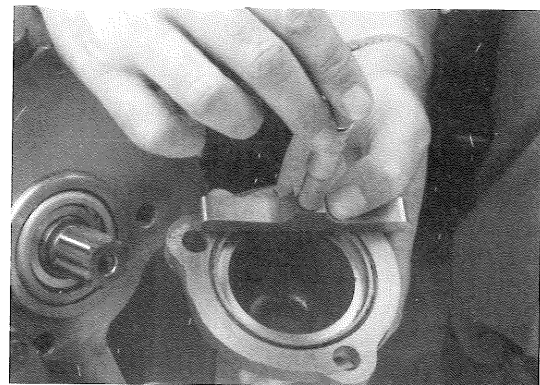

Fig. 14
2. Measure the depth of the recess in the oil pump and in the output shaft end cover as in Fig. 14, and make up the difference between the two dimensions with shims.